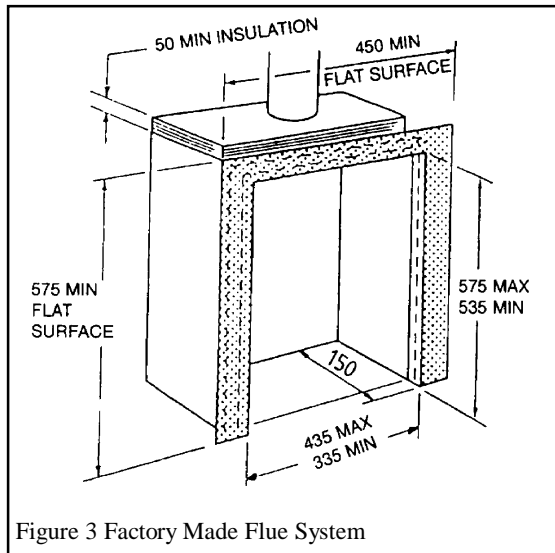

Figure 3 Factory Made Flue System
- A sheet metal flue system conforming with BS4543 or BS715, the flue diameter being a minimum of 125mm (5") (see Figure 3) with a minimum internal depth of 150mm. Incombustible mineral wool insulation of not less than 50mm thickness must be applied to the top surface of the system firebox, as shown in figure 3.